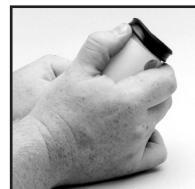

Figure 4.
4. To replace the Viton® collar, push it off the top of the piston with your thumb. Figure 4. Install the new collar on the piston onto the form fitted sides.